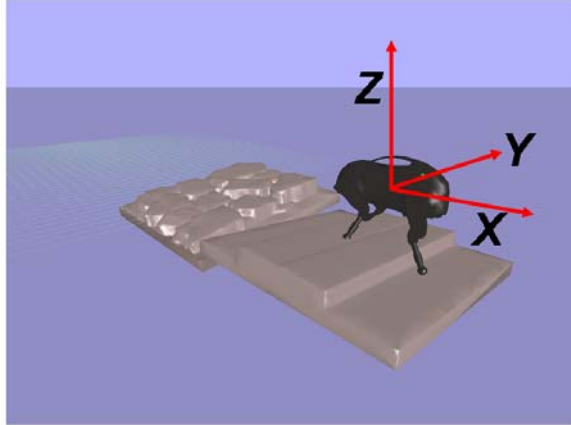

Figure 1: Littledog picture for Problem 3.
(1) LittleDog (Figure 1) is a quadruped robot used in the **Learning Locomotion** program in the GRASP Lab. It has multiple sensors onboard including an accelerometer and a gyroscope. When the robot is not moving, the accelerometer reading corresponds to the direction of gravity with respect to a body fixed frame attached to the robot, *eg* when the robot is placed on a horizontal surface with zero pitch, zero roll and zero yaw, the accelerometer reads  $(0, 0, 9.81)$ . Table provides a set of accelerometer readings for different poses of LittleDog. Determine the exponential coordinates and the roll, pitch and yaw euler angles for the robot corresponding to these readings. Comment on your answers.
(2) Download the dataset (littledog\_gyro.txt) from the course website. The dataset provides 10 seconds worth of raw angular rate data for motion of LittleDog measured using the onboard gyroscopes. The data is sampled at 100 Hz. Use the data to determine the euler angles corresponding
to the rotation of the robot at the end of every second with respect to a global reference frame. Assume that the robot was initially at the origin of the reference frame with zero roll, zero pitch and zero yaw. The matlab command `gyro_data = load('littledog_gyro.txt')` will load the data into a matlab workspace variable `gyro_data`. The data is in the format  $(\omega_x, \omega_y, \omega_z)$  where the angular rates are in the body fixed reference frame of the robot shown in Figure 1.